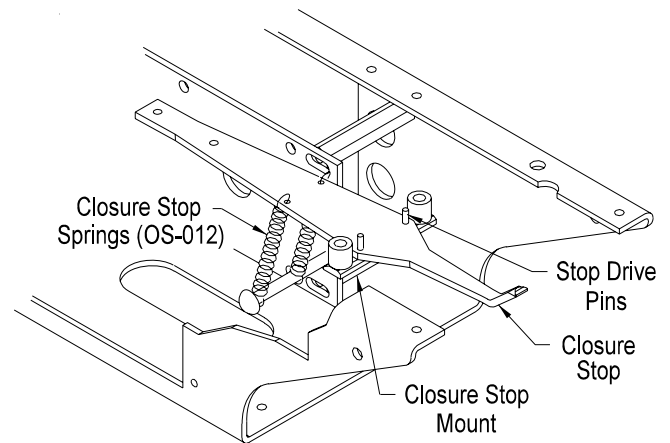

Figure 3.2
2. Disconnect the two gold colored closure stop springs (OS-118) from the lower spring anchor screw (Figure 3.2). When the springs are reattached be careful not to stretch them.